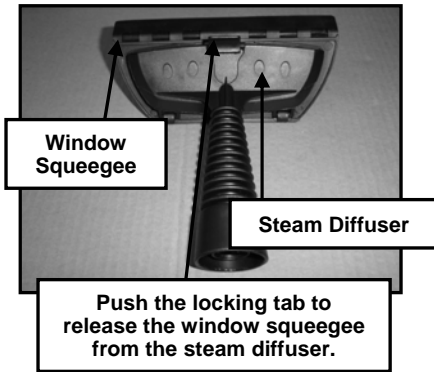

Fig. 7
- Push back the locking tab to release the window squeegee from the steam diffuser. (Fig. 7)